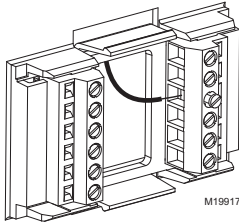

Fig. 5. Insert wires into terminal block.
- Insert the wires into the terminal block and tighten each screw terminal. See Fig. 5.